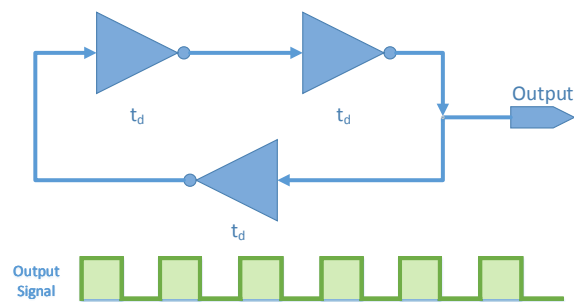

Figure 1: Simulation result for Listing 1, output changes 15ns after the change in input.
3. NOT gates are also used in ring oscillators, which is a kind of an oscillator, often used to generate clock signals. Ring oscillator is an oscillator which looks like a ring, and contains a chain of odd number of NOT gates. Ring oscillator's frequency depends on the delay of the NOT gate and number of gates used. A simple 3 NOT gate ring oscillator is shown in Fig. 1. Let the propagation delay of each of the gate in Fig. 1 be  $t_d$ , intuitively one can say that the delay between change of values at any point is  $3t_d$ . Use this information and calculate the time period of an n NOT gate ring oscillator, where n is an odd number.